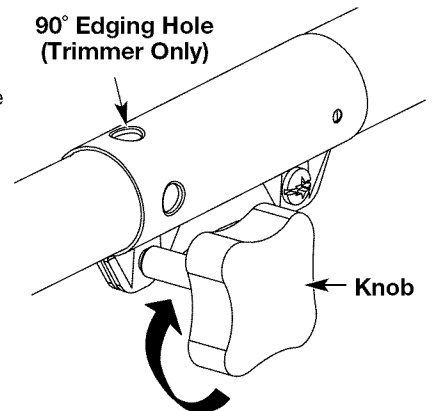

Fig. 18
3. Turn the knob clockwise to tighten (Fig. 18).
For edging (when using the line head cutting attachment with EZ-Link™ models), lock the release button of the cutting attachment into the 90° edging hole (Fig. 18).